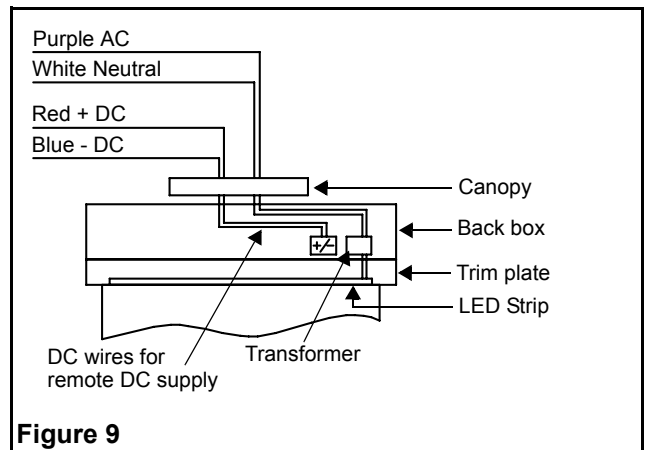

Figure 9
6. Make the proper connections. Our system can accept input voltages of 120 VAC to 347 VAC. Therefore, connect the purple (hot) and white (common) leads to the building utility (see fig. 9).
9. Make the proper connections. Our system can accept input voltages of 120 VAC to 347 VAC. Therefore, connect the purple (hot) and white (neutral) leads to the building utility (see fig. 9).
Refer to fig. 9 for AC & DC wiring.